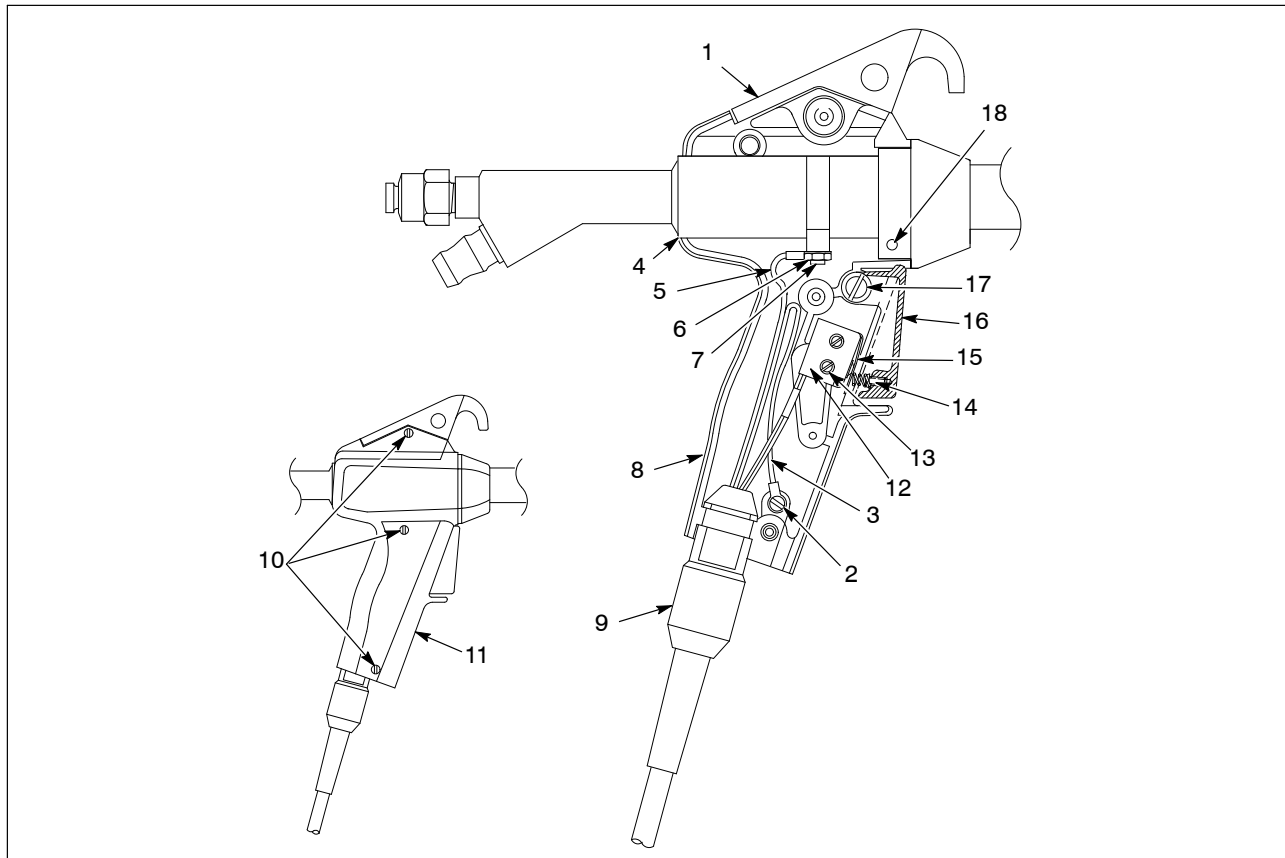

Figure 6 Handle, Trigger, and Cable Replacement
1. See Figure 6. Loosen the three captive screws (10) in the cover (11).
2. Separate the cover from the handle (8).
3. Remove the body (4) from the handle. Remove the nut (6) and ground wire (5) from the set screw (7).
4. Remove the screw (2), ground wire (3), and hanger (1) from the handle.
5. Unscrew the two small screws (13), then remove the trigger switch (12) and actuator (15) from the handle. If replacing the cable (9), remove the screws, washers, and actuator from the trigger switch.
6. Unscrew the pivot (17), then remove it and the trigger (16). Remove the screw (14) to replace the trigger spring.